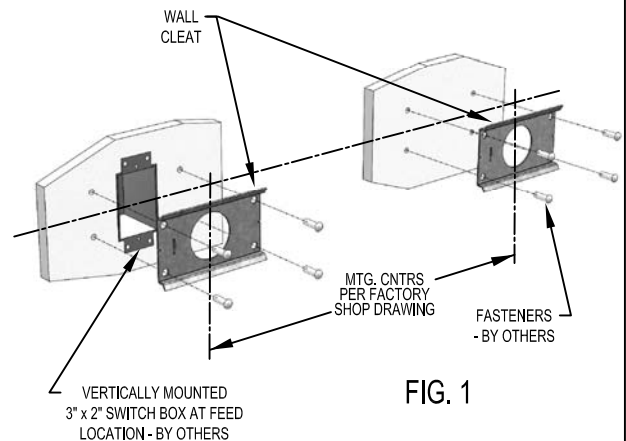

FIG. 1
USING WALL CLEAT AS A TEMPLATE, CENTER OVER VERTICALLY MOUNTED 3" x 2" SWITCH BOX AND MARK (4) MOUNTING HOLES. USE LEVEL TO PLUMB WALL CLEAT. (FIG. 1) DRILL HOLES APPROPRIATE FOR MOUNTING SURFACE AND FASTENERS TO BE USED. SECURELY ATTACH CLEAT TO WALL.